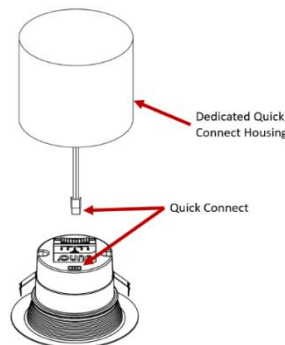

Figure 6
- II. **Installation into dedicated quick connect housings** Plug the connector from the dedicated Quick Connect housing into the mating orange connector on top of the module's trim. Push firmly to ensure connectors are securely fastened (see *Figure 6*). **DO NOT LET THE MODULE HANG UNSUPPORTED BY THE ORANGE QUICK CONNECTOR!**